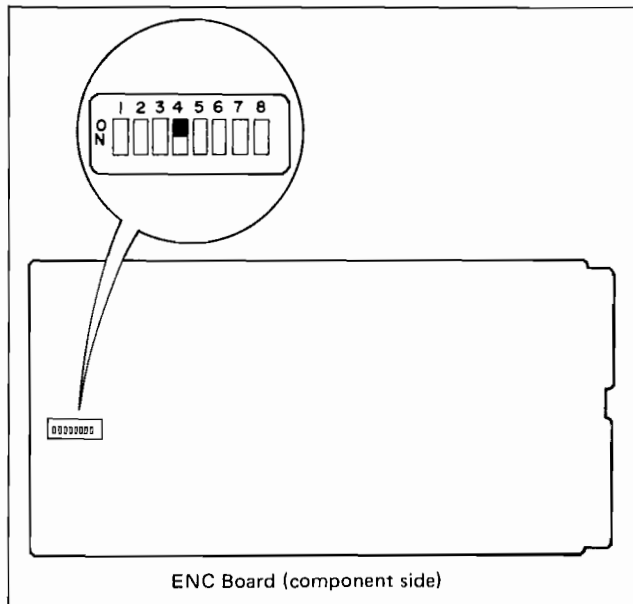

Fig. 5-19.
- Turn on the SW (4) on the ENC board. (4 BLOCKS) (Refer to Fig. 5-19.)